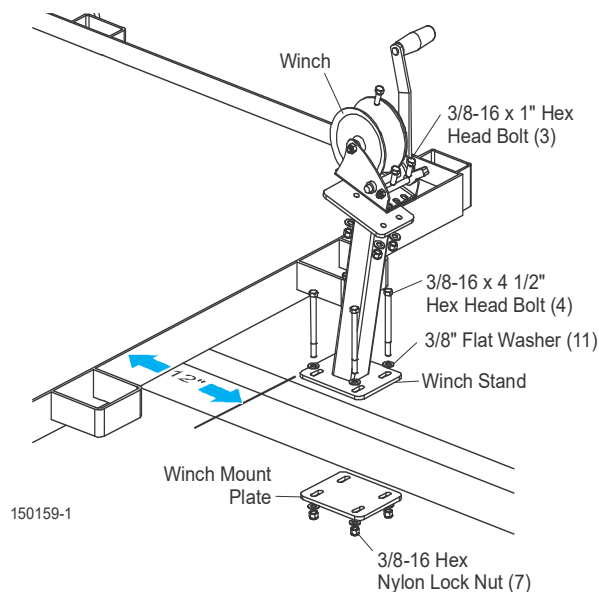

FIG. 1-1
3. Position the winch stand on the trailer tongue post with the stand base approximately 12" from the trailer. Orient the stand so it angles away from the trailer. Secure the winch stand to the post with the winch mount plate and four 3/8-16 x 4 1/2" hex head bolts, flat washers and lock nuts. See Fig. 1-1.